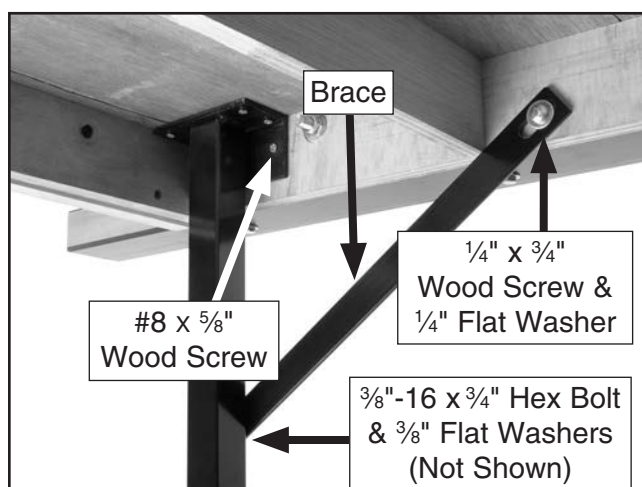

Figure 25. Leg and brace mounted.
3. Use (12) #8 x $\frac{5}{8}$ " wood screws to fasten the legs to the underside corners of the extension table, as shown in **Figure 25**.
4. Use (2) $\frac{3}{8}$ "-16 x $\frac{3}{4}$ " hex bolts and $\frac{3}{8}$ " flat washers to loosely attach the braces to the legs (see **Figure 25**). These will be adjusted and fully tightened later.
5. Use the (2) $\frac{1}{4}$ " x $\frac{3}{4}$ " wood screws and $\frac{1}{4}$ " flat washers to attach the braces to the extension table (see **Figure 25**).